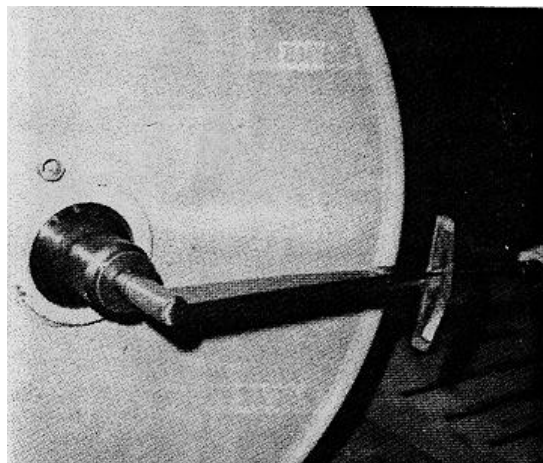

FIGURE 9-108.
g. Working at each end separately, torque slotted nut to 200 ft.-lbs. (27.7 kg-m); back off to 25 ft.-lbs. (3.5 kg-m), then retorque to 45 ft.-lbs. (6.3 kg-m) or next higher slot. Install cotter pin (see figure 9-108).